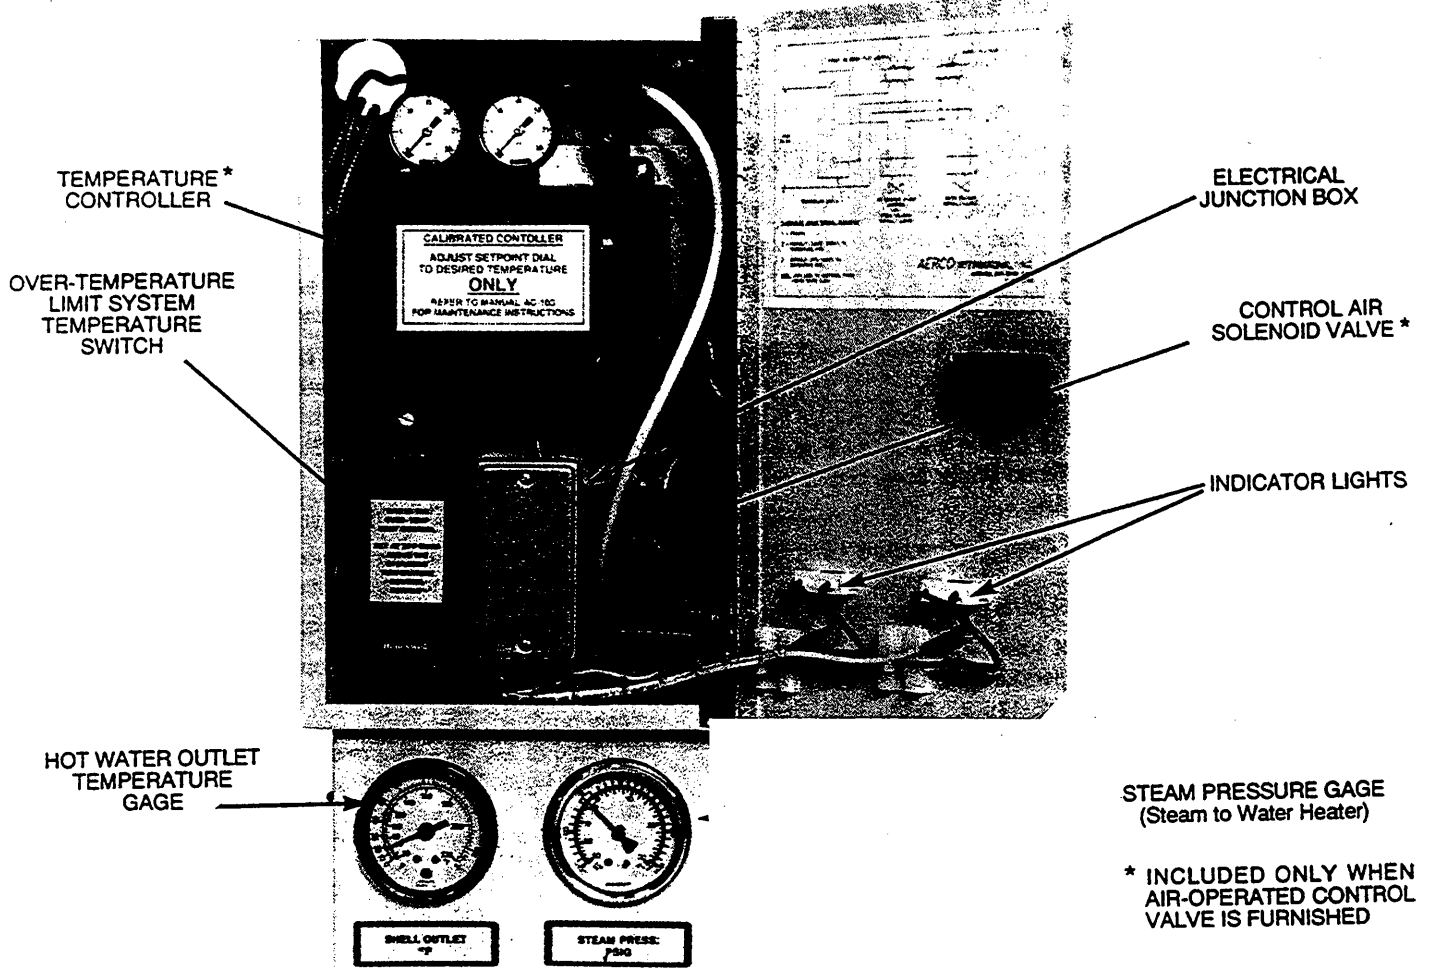

Figure HE-104-9 -- Model B-PLUS Heater Control Box
9. If an air-operated Control Valve is furnished in the Heater package, make the necessary supply air connection to the connector through the side of the Control Box (see Figure HE-104-9). The supply air pressure must be maintained at 20 psig.
10. Connect 110 v 60 Hz power supply wiring through the side of the Control Box to the electrical junction box (see Figure HE-104-9).
- OP2. Temporarily set the Over-Temperature Limit System Temperature Switch in the Control Box (see Figure HE-104-9) to its high temperature limit.
- OP3. If the Steam Control Valve furnished is air-operated and there is a Temperature Controller in the Control Box (see Figure HE-104-9), set the Controller at the temperature desired to be held at the Heater hot water outlet.